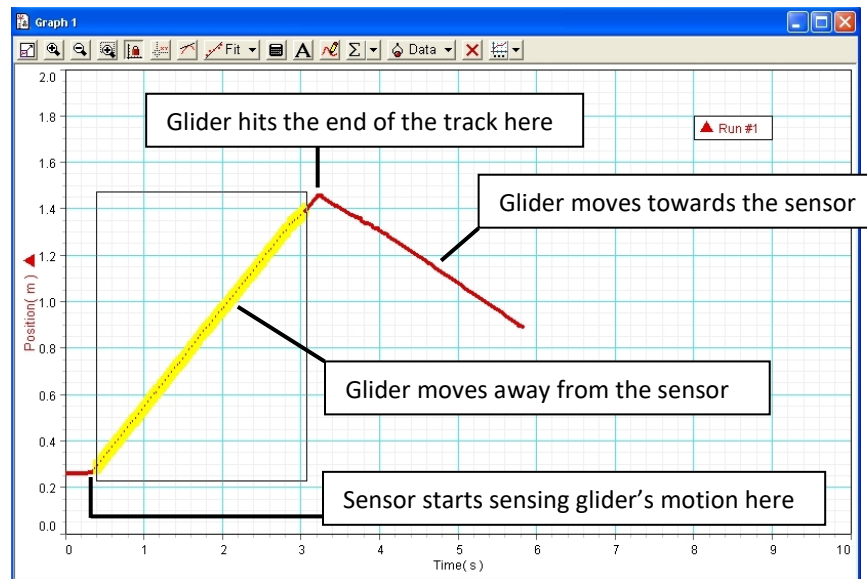

Figure 5
7. Bring the glider closer to the motion sensor. Push the glider away from the sensor while clicking the **start** button at the top left corner in the **DataStudio** program. Click the **stop** button when the glider reaches the end of the air track. Your graph will look like Figure 5.